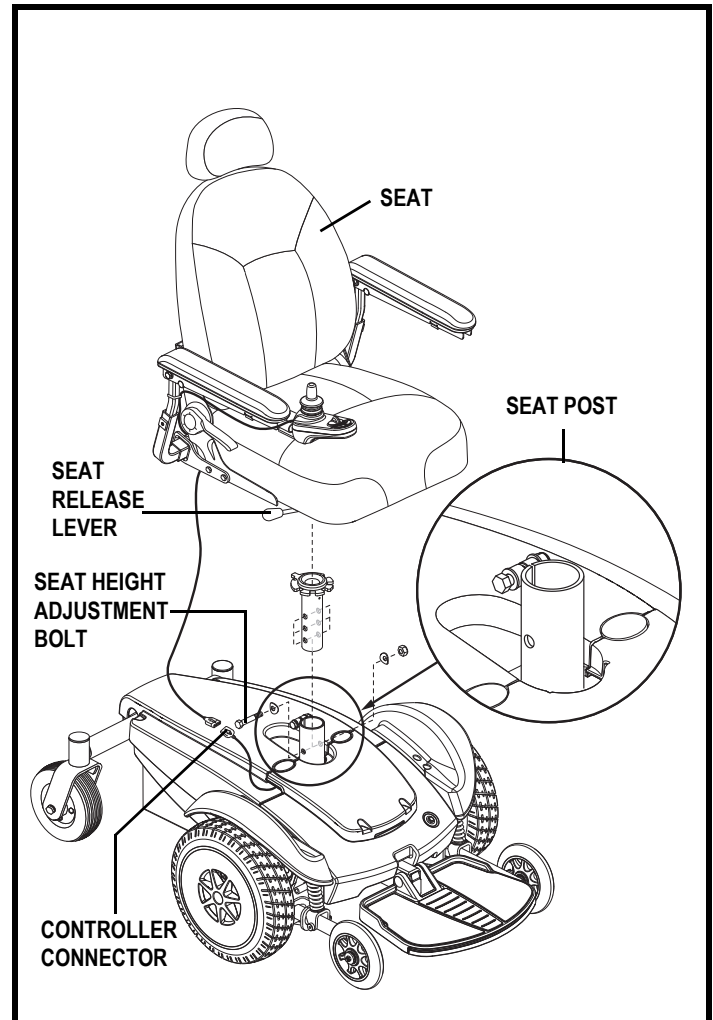

Figure 12. Seat Height Adjustment
3. Disconnect the controller connector from the power base. See figure 12.
4. Disengage the seat release lever. See figure 12.
6. Loosen the hardware at the rear of the seat post. See figure 12.
7. Remove the seat height adjustment bolt, washers and nuts from the seat post. See figure 12.